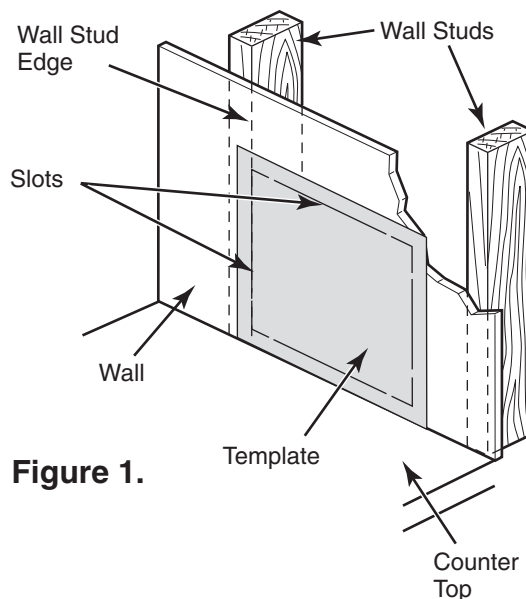

Figure 1.
1. Locate **wall studs** within the desired location of **wall**. Using the **template** provided, Place **template** on **wall** as shown. **Slots** in **template** should be flush with left or right side of **wall stud** edge. The **slots** in the **template** designate the area to be cut. The bottom of **template** reflects the bottom of the unit. See **Figure 1**.